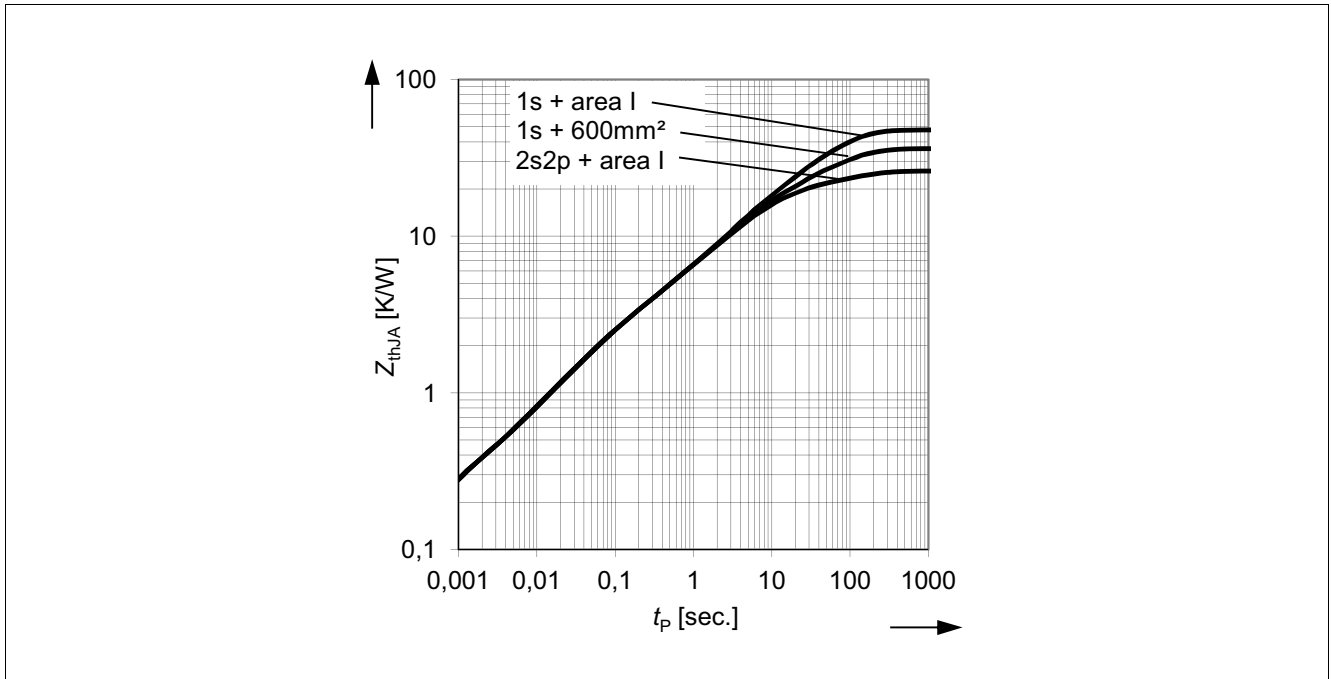

Figure 5 Typical transient thermal impedance  $Z_{th}(JA) = f(t_p)$  for different cooling areas
**Figure 5** is showing the typical thermal impedance of BTS50040-2SFA mounted according to Jedec JESD51-2,-5,-7 at natural convection on FR4 1s and 2s2p board. The product (chip + package) was simulated on a 76,4 x 114,3 x 1,5 mm board with 2 inner copper layers (2x 70 $\mu\text{m}$  Cu, 2 x 35 $\mu\text{m}$  Cu). Where applicable, a thermal via